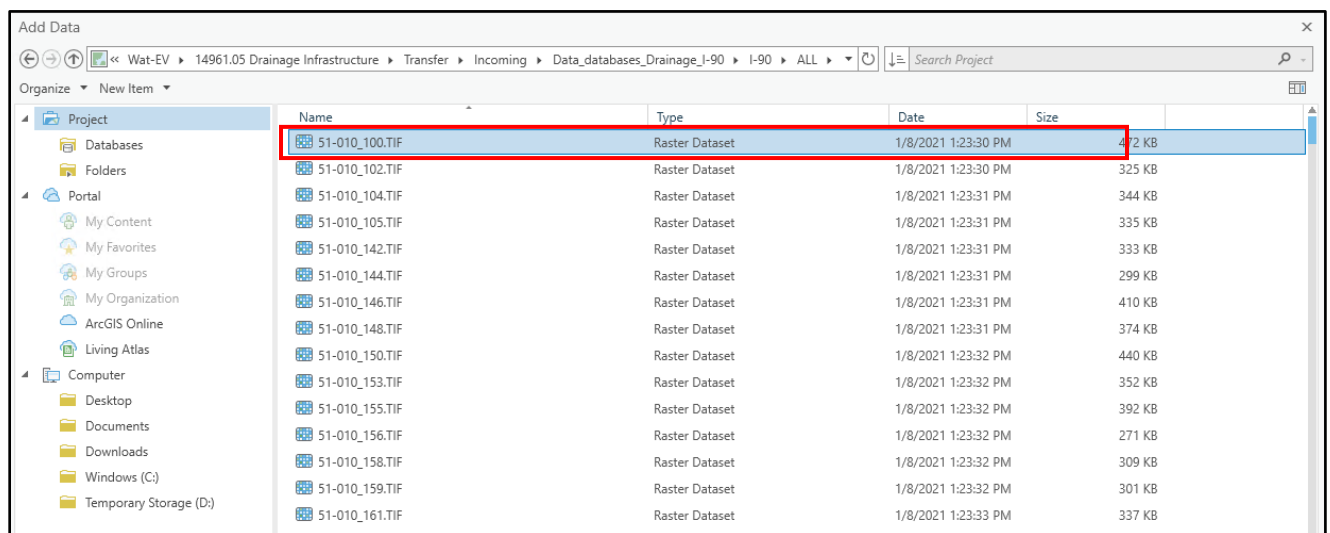

Figure 20
1. In ArcGIS Pro, from the Map tab, click "Add Data" and navigate to the folder where the georeferenced plans are saved. Select a TIF file and click "Ok" (Figure 20). Note: multiple files may be selected and added to the map at one time. Mappers can also add folder connections by navigating to the Catalog pane and right clicking "Folders" under the Project tab. By adding a folder connection, tif files can be brought in from desktop or OneDrive folders.